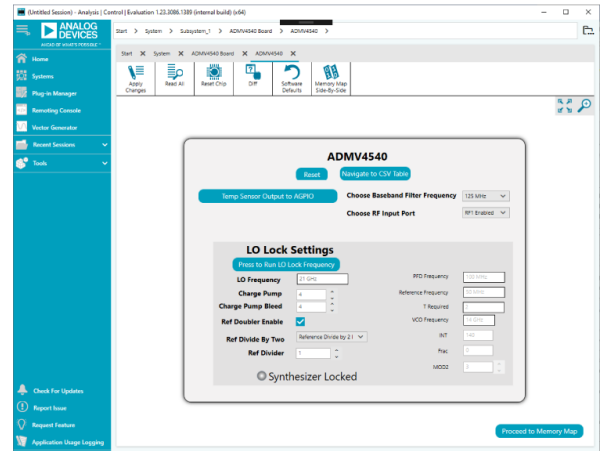

Figure 8. ADMV4540 Block Diagram in the ACE Software
- The ADMV4540 Block Diagram in the ACE software then opens (see Figure 8). Note for optimal performance, it is recom-